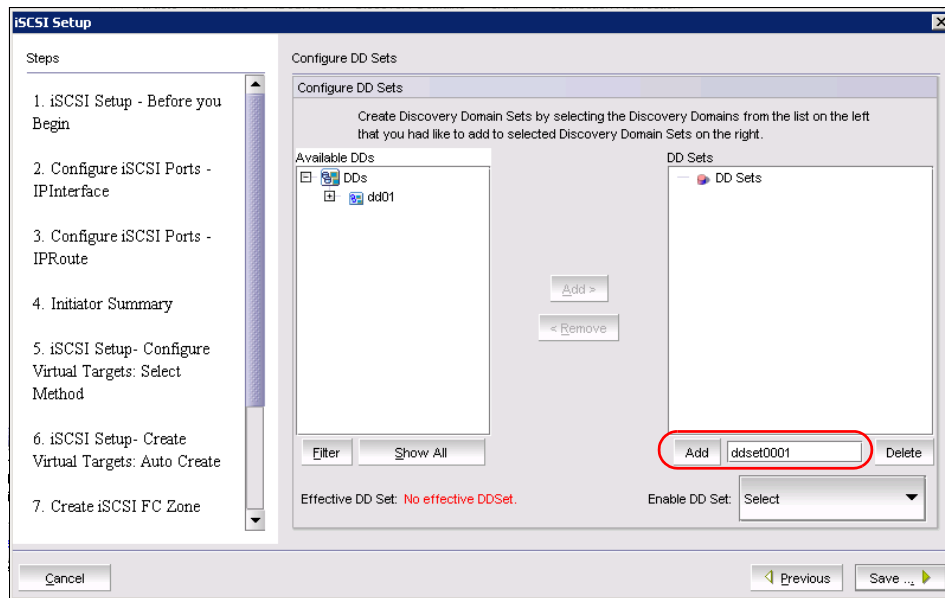

Figure 11-33 Creating DD Set
11. Create a DD Set and include dd001. Enter ddset001 for the name and click **Add**, as shown in Figure 11-33.